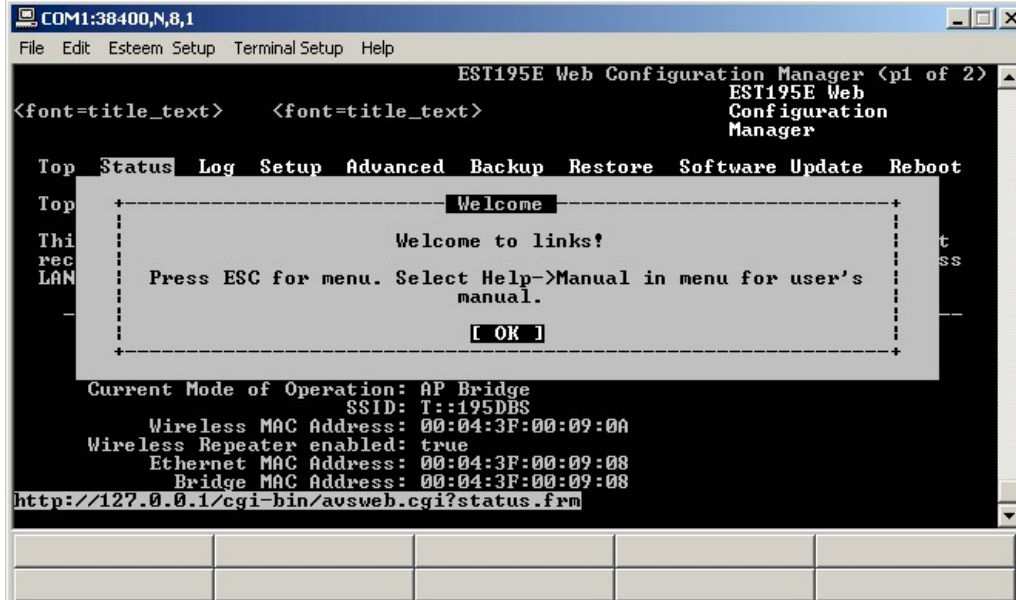

Figure 11: RS-232 Welcome Screen
11. The ESTeem Configuration Welcome Screen (Figure 11) will now be displayed. Press the Enter key to continue on the Top menu items.